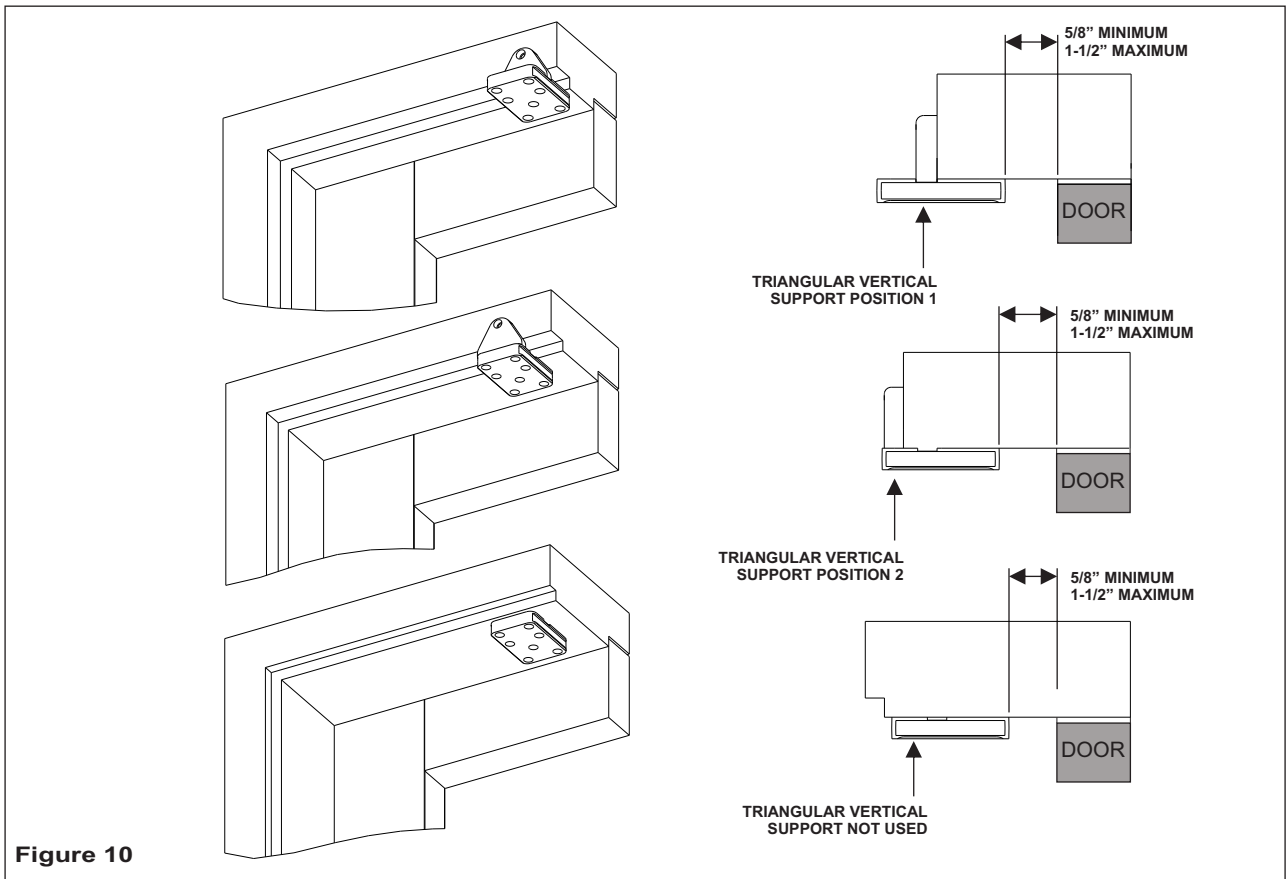

Figure 10
2. Refer to Figure 10 and DETERMINE the mounting location of the triangular vertical support bracket.